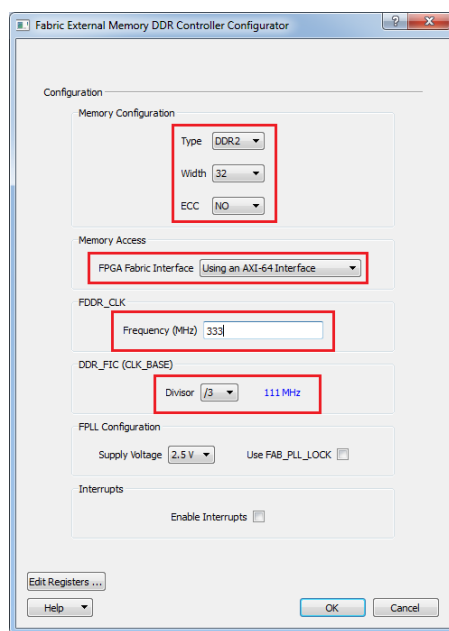

Figure 2-14 • FDDR Configuration
2. Configure the FDDR and select the AXI interface, as shown in Figure 2-14. In this example, the design is created to access DDR3 memory with a 32-bit data width. The FDDR clock is configured to 333 MHz and DDR_FIC is configured to 111 MHz.